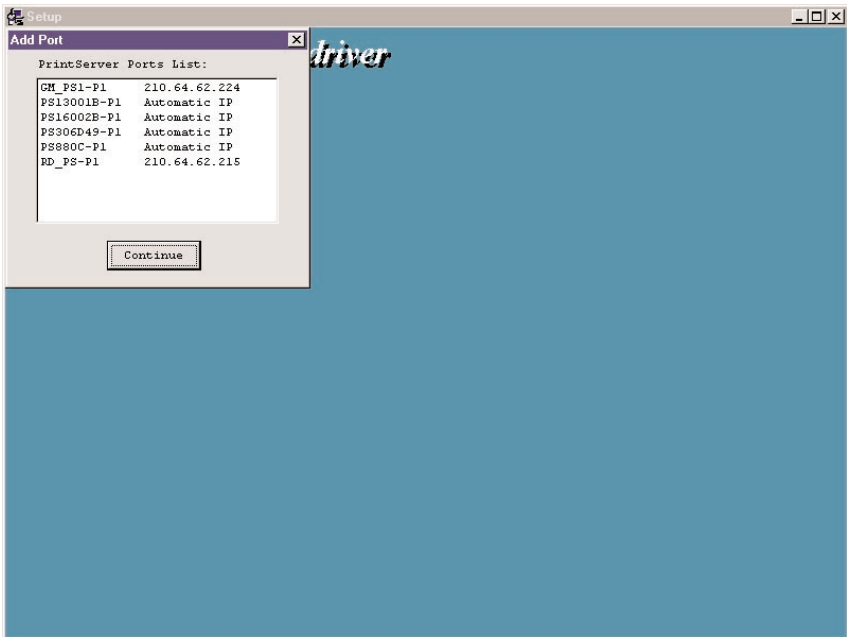

Figure 4-22. Adding ports.
7. You can cancel the installation by clicking on the **Cancel** button. If you don't click on the **Cancel** button, the installation procedure will finish. Once it's done, Figure 4-22 will appear.